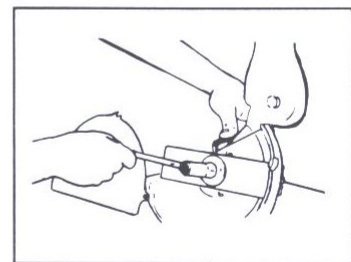

Fig. 10
2. Remove the blade by inserting the locking rod tool into the blade driver slot and loosen the lock nut **clockwise** with a wrench. Remove the nut, retainer washer and blade (Fig. 10).